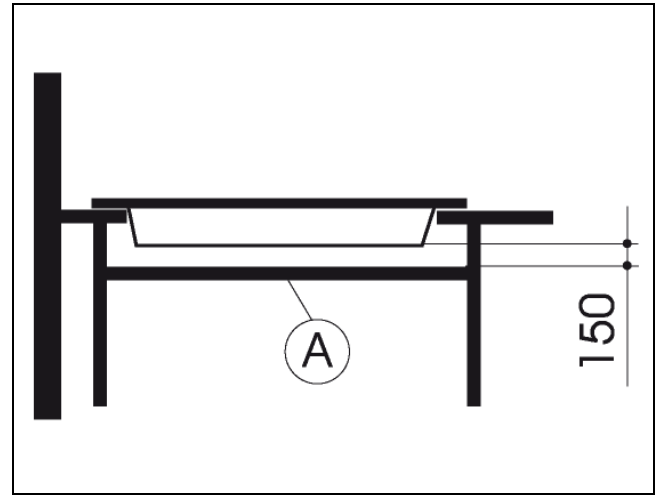

Fig.6
7. Shelf "A" (fig. 6) should be installed under the worktop to protect the user from accidentally touching the hot hob from beneath. The shelf should be fitted after installing the hob in the worktop.